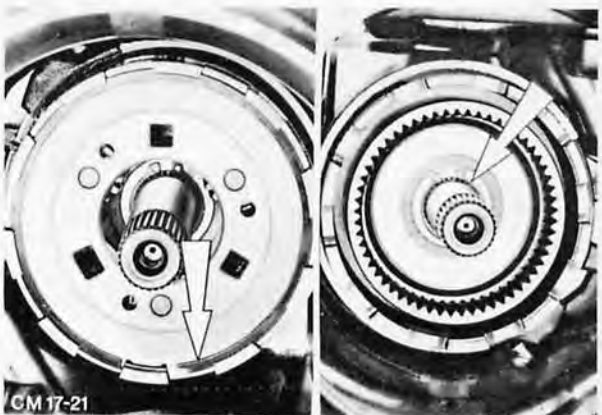

Fig. 80. Planet carrier circlip and output shaft circlip
15. Remove large circlip from rear planet carrier, Fig. 80. Take out planet carrier together with thrust washer No. 5. Then remove small circlip from output shaft, Fig. 80.